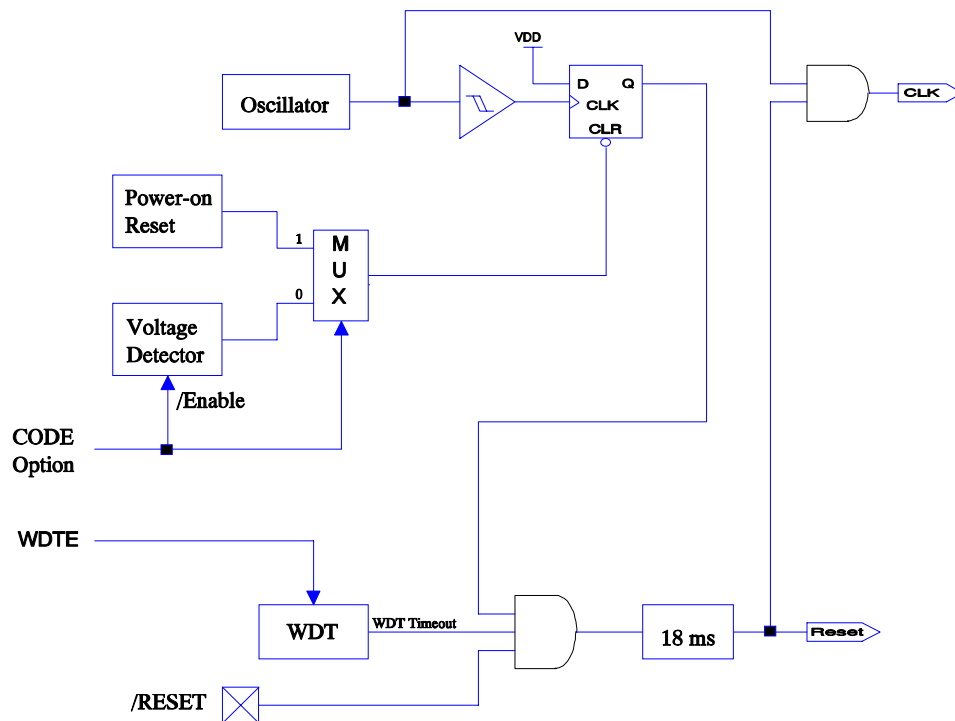

Fig. 9 Block diagram of Reset of controller
- (1) Power on reset, or Voltage detector
- (2) RESET pin input "low", or
- (3) WDT timeout (if enabled).
Note that only Power on reset, or only Voltage detector in Case(1) is enabled in the system by CODE option bit . Refer to Fig. 9. The device will be kept in a RESET condition for a period of approx. 18ms (one oscillator start-up timer period) after the reset is detected. Once the RESET occurs, the following functions are performed.